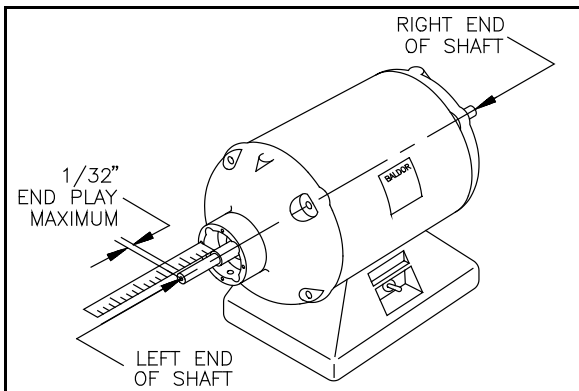

Figure 6. Shaft end play
- 4.2 Temporarily attach the adapter with two 10-32 x 1/2 screws. Put a folded shop towel in the palm of your hand a push firmly (50 lbs. force) on the right end of the shaft while measuring the protrusion of the left end. See Figure 6. You may need an assistant to push the shaft while you measure.